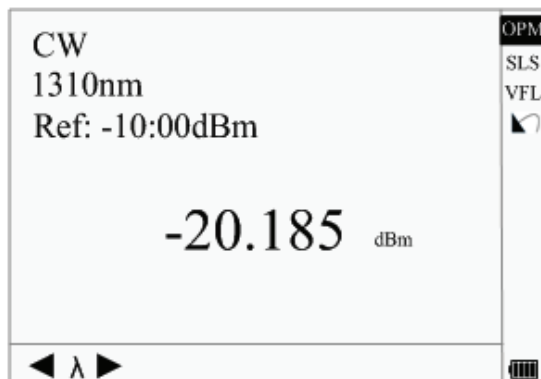

Figure 4-10. Optical Power Meter
1. Enter PM/LS interface as described in “Power Meter, Laser Source, and VFL Configuration” in Section 3. Use ▲ and ▼ to highlight “OPM”, and press Enter to enter OPM interface (Figure 4-10)